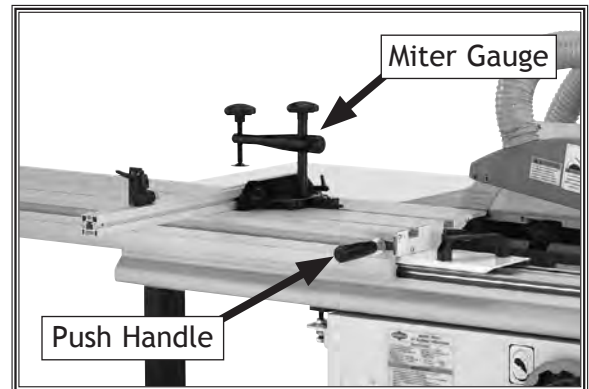

Figure 40. Push handle and miter gauge installed.
38. Assemble the miter gauge and push handle, as shown in **Figure 40**.